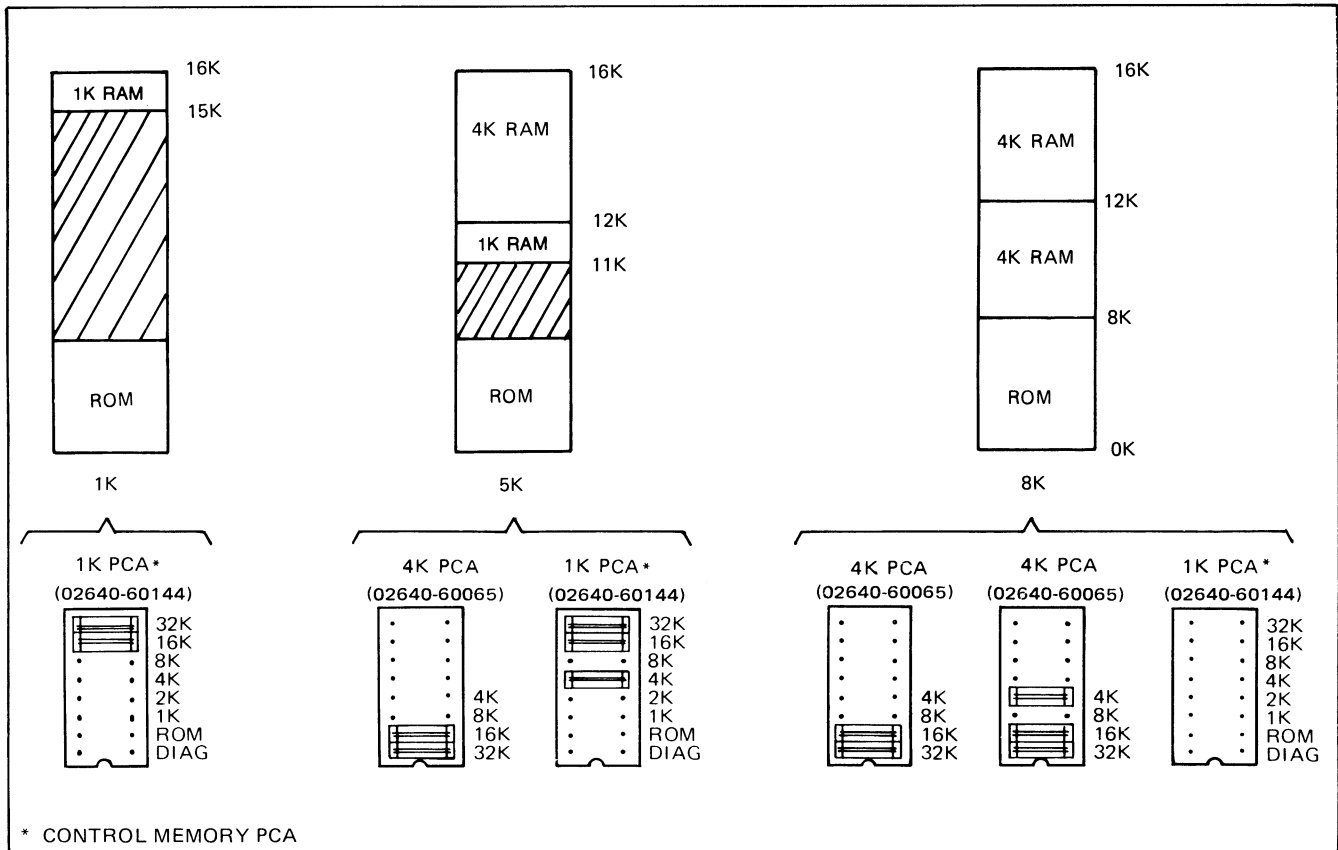

Figure 7-10. Memory Maps and Corresponding Memory Addressing Jumper Positions for 1K, 5K, and 8K
2. () Locate and insure that the Control Memory (1K) PCA, part no. 02640-60144, has all properly installed jumpers. (See figure 7-10.)
4. () Using figure 7-10 as a guide, arrange PCA starting address jumpers to select appropriate memory starting address for the size memory being configured.